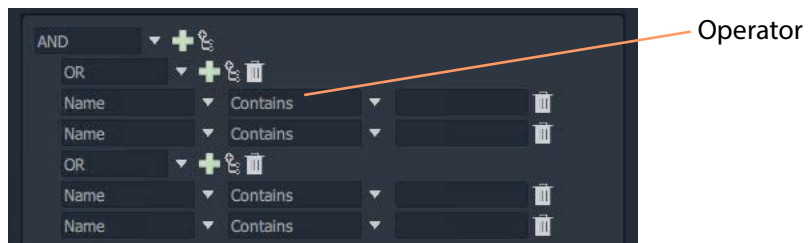

Fig. 12-61: Second Expression Item Added
- 8 Add a second expression item under the new OR item. See Figure 12-61.